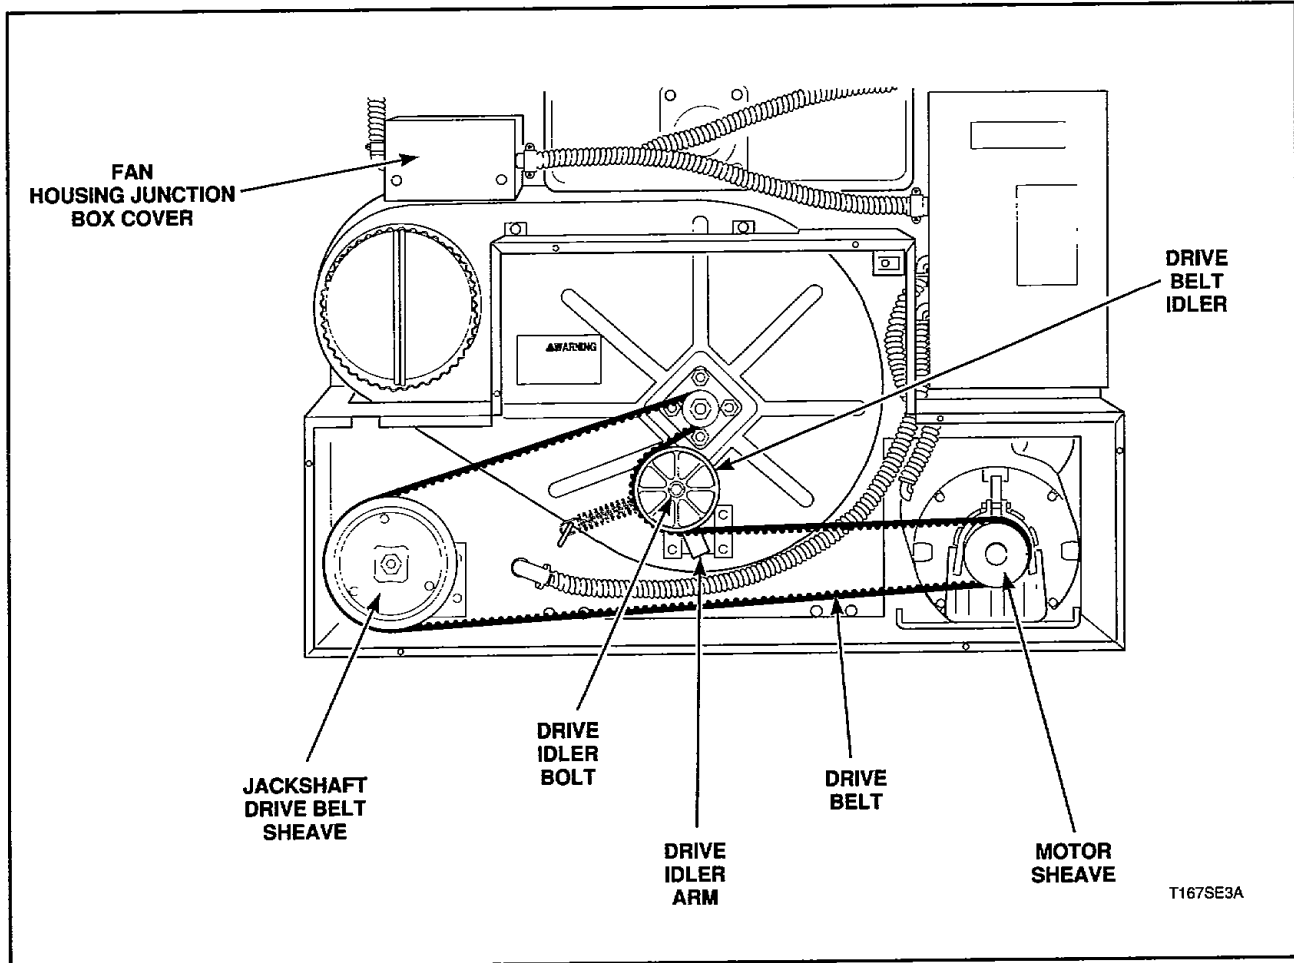

Figure 24
- Run belt off sheaves and idler, Figure 24.
NOTE: The drive belt tension is automatically set by a spring loaded idler system. There is no adjustment. Refer to Figure 24 for proper belt routing.
30. DRIVE IDLER (Figure 24)